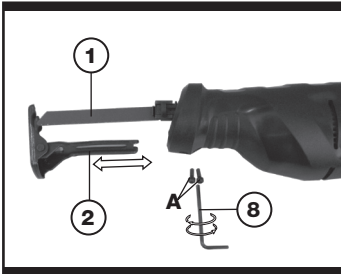

Fig. 3
If you need to reduce the cutting capacity of your tool (depth of cut), the pivoting foot plate (2) may be adjusted as follows. Loosen the two securing screws (A) on the underside of the front housing with the spanner (8) provided. Slide the pivoting blade foot (2) to the required position. Tighten both screws (A) and check that the blade foot (2) is firmly latched. (see Fig.3)